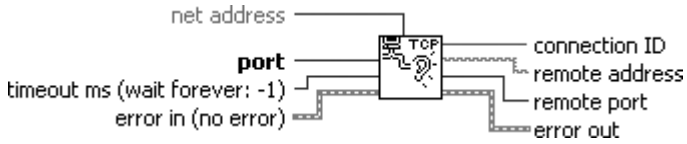

Figure 16.54
1. Wait for a connection (see Figure 16.54).